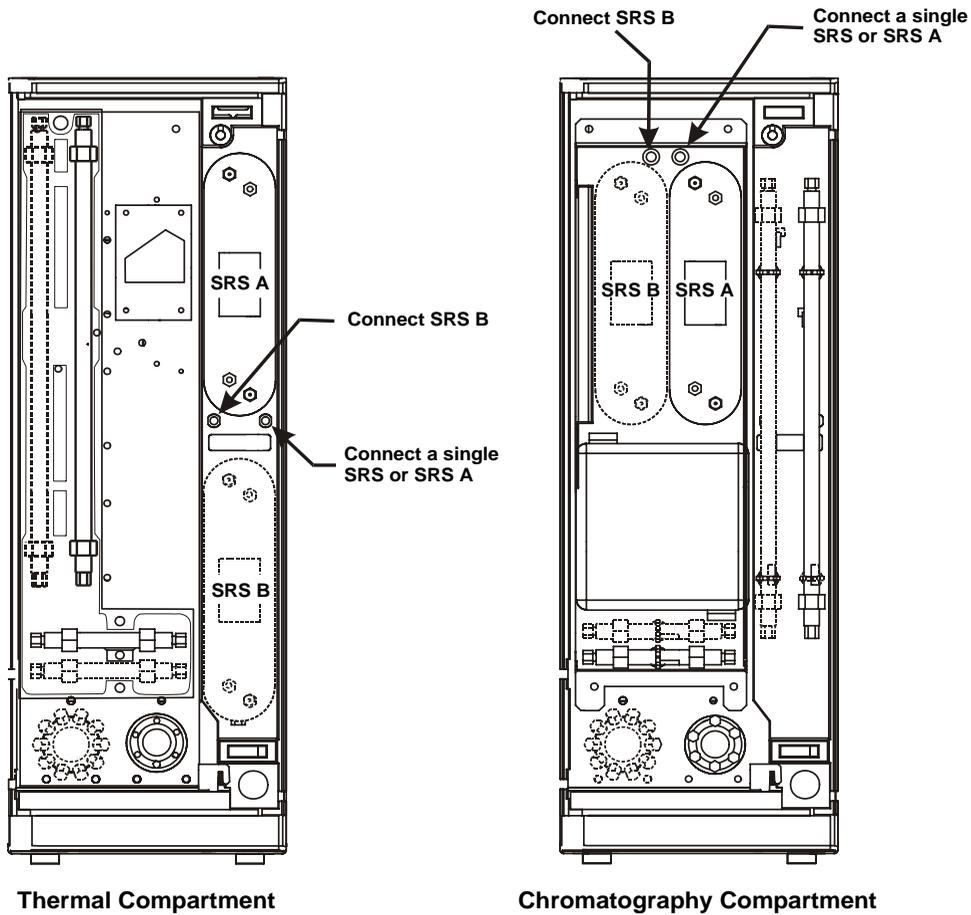

Figure B-25. SRS Cable Connectors
3. Two SRS connectors extend from openings in the compartment. See Figure B-25 for the location of the connectors in each compartment.